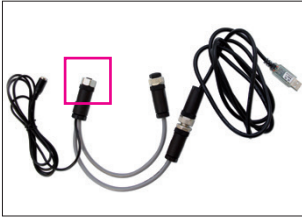

Fig. 5: Cable set included
- A replacement BioPAT® Xgas power supply kit pack can be ordered from Sartorius Stedim Biotech (SB-20-02-0002), see “Fig. 5: Cable set included”.